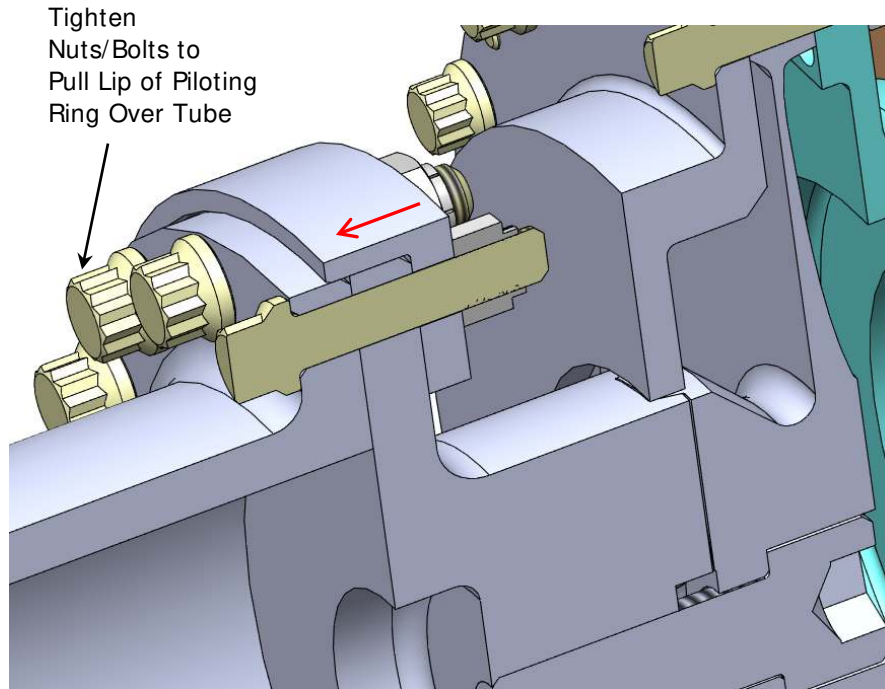

Figure 13 – Piloting Ring Fit Over Tube OD
4.2.3 While supporting the weight of the tube, tighten the bolts/nuts a few turns at a time in a criss-cross pattern to draw the piloting ring over the tube flange evenly (see Figure 13). Install the remaining bolts and nuts and torque evenly in a criss-cross pattern to the torque shown on drawing HC-8157.